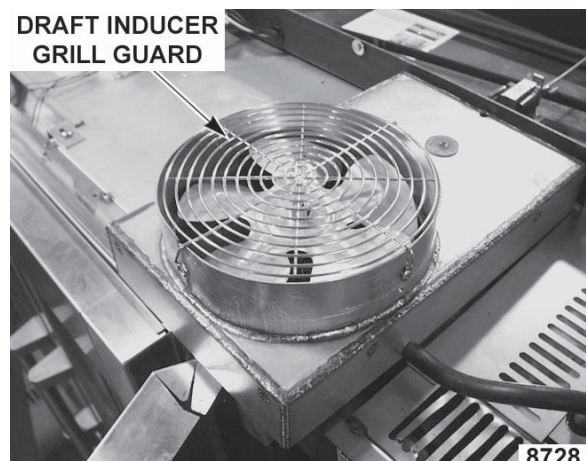

Fig. 7
4. Clean draft inducer housing grill guard (Fig. 7).